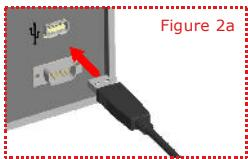

Figure 2a
- Plug the Communications cable into a USB or Serial port on your computer (as pictured in figure 2a/b below).